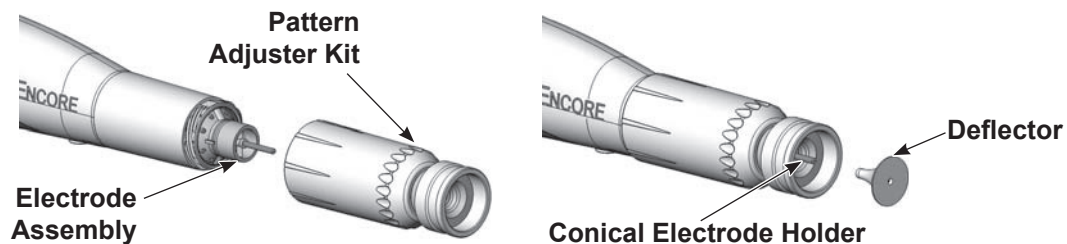

Figure 8 Pattern Adjuster Kit Installation
3. See Figure 8. Install the integral conical nozzle onto the electrode assembly and screw the nozzle nut clockwise until finger-tight